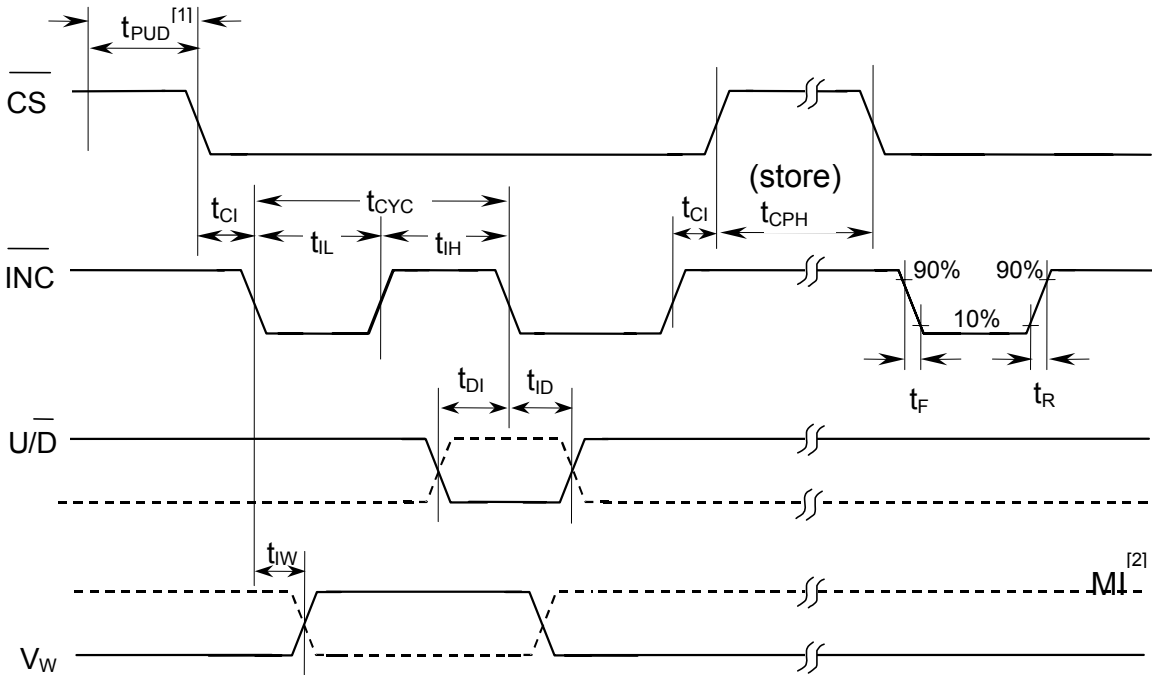

FIGURE 3 –WMS7130/1 TIMING DIAGRAM
- ^[2] MI in the AC Timing diagram (Figure 3) refers to the minimum incremental change in the wiper output due to a change in the wiper position.